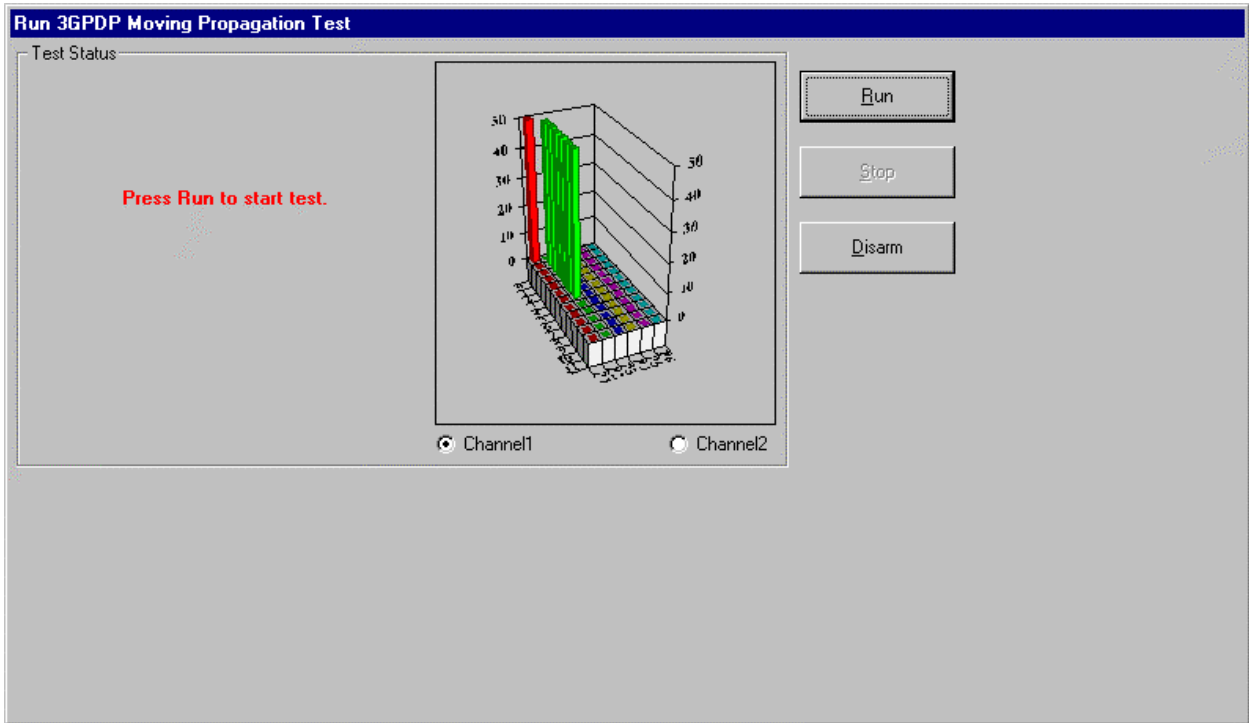

Figure 3-42. Run 3GDP Moving Propagation Test Screen
9. When the unit has been successfully **Armed**, the screen shown in Figure 3-42 will appear. Press the **Run** button to begin test execution or the **Disarm** button to return the unit to static operation.